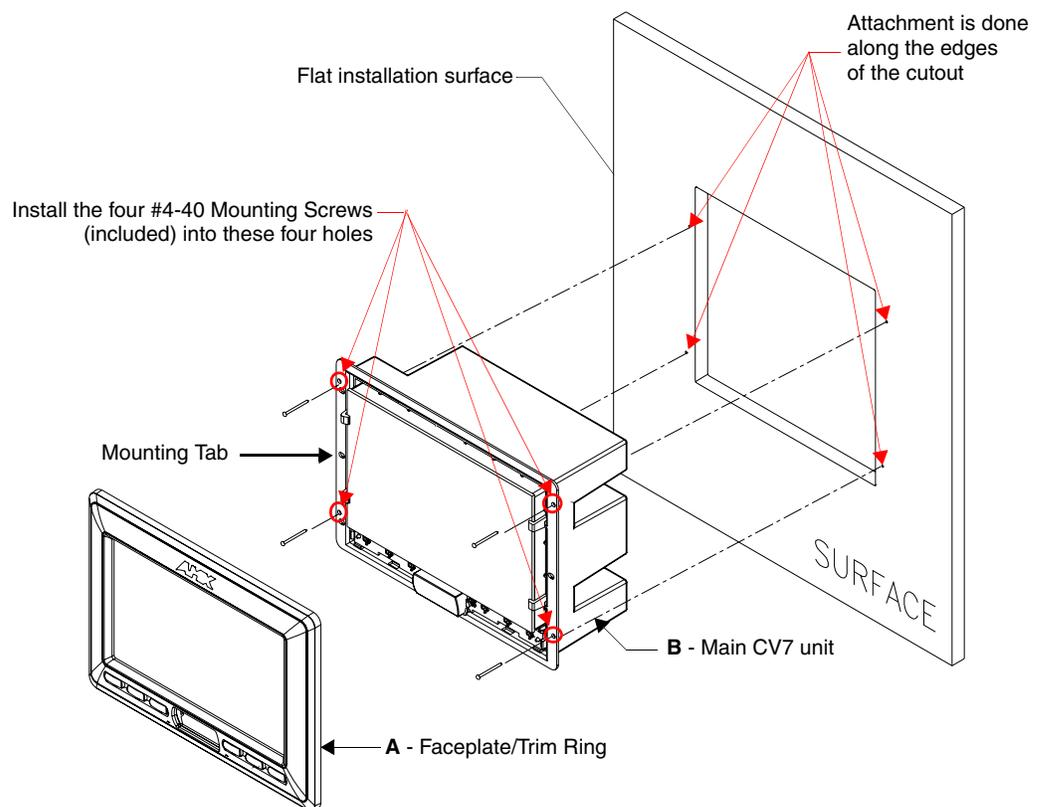

FIG. 39 Wall Mount panel installation configuration for flat surfaces
3. Remove the Faceplate/bezel (**A** in FIG. 39) from the main NXD unit (**B** in FIG. 39) by gripping the faceplate and pulling with gentle outward force.
9. Insert and secure four #4-40 Mounting Screws (included) into their corresponding holes located along the sides of the NXD-CV7 (using a grounded Phillips-head screwdriver) until the unit is secure and flush against the wall (FIG. 39).